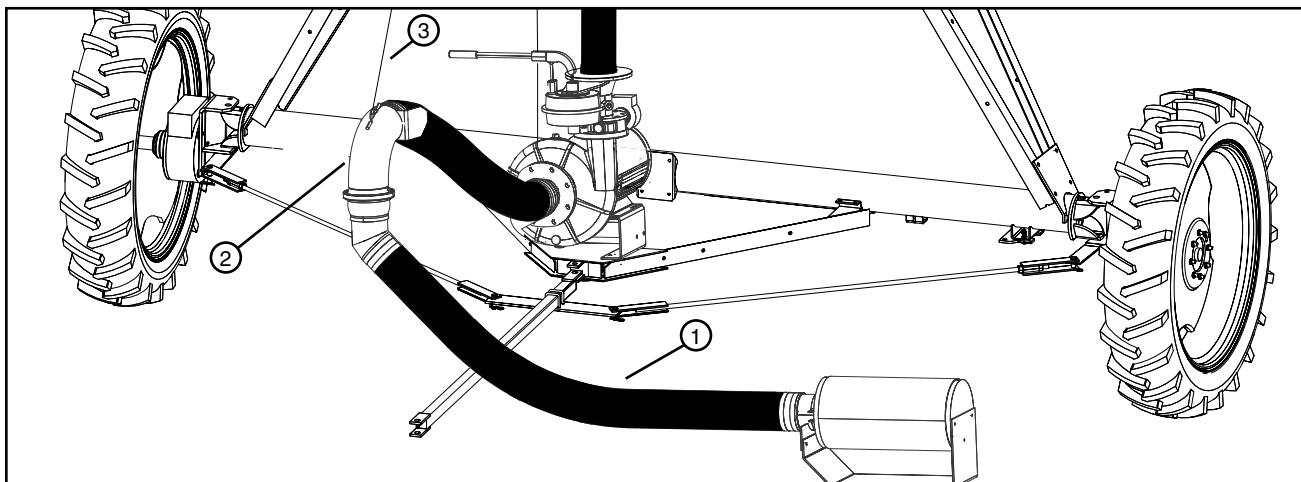

Figure 80-3 1. Inlet Suction Hose 2. Elbow Inlet (Inlet in Up Position) 3. Lift Cable
- Use the lift cable to lift the elbow inlet up. See figure 80-3.
- Disconnect the inlet suction hose from the elbow inlet to prevent damage. See figure 80-3.